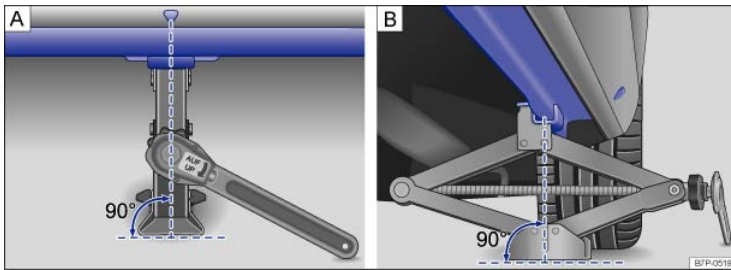

Fig. 214 Jack in position at the left rear lift point.
- Position the jack only at the described vehicle lift points. Before you raise your vehicle, always make sure the jack claw properly grips the rib under the sill so that the jack does not slip off when you are raising the vehicle ⇒ *Fig. 214*.